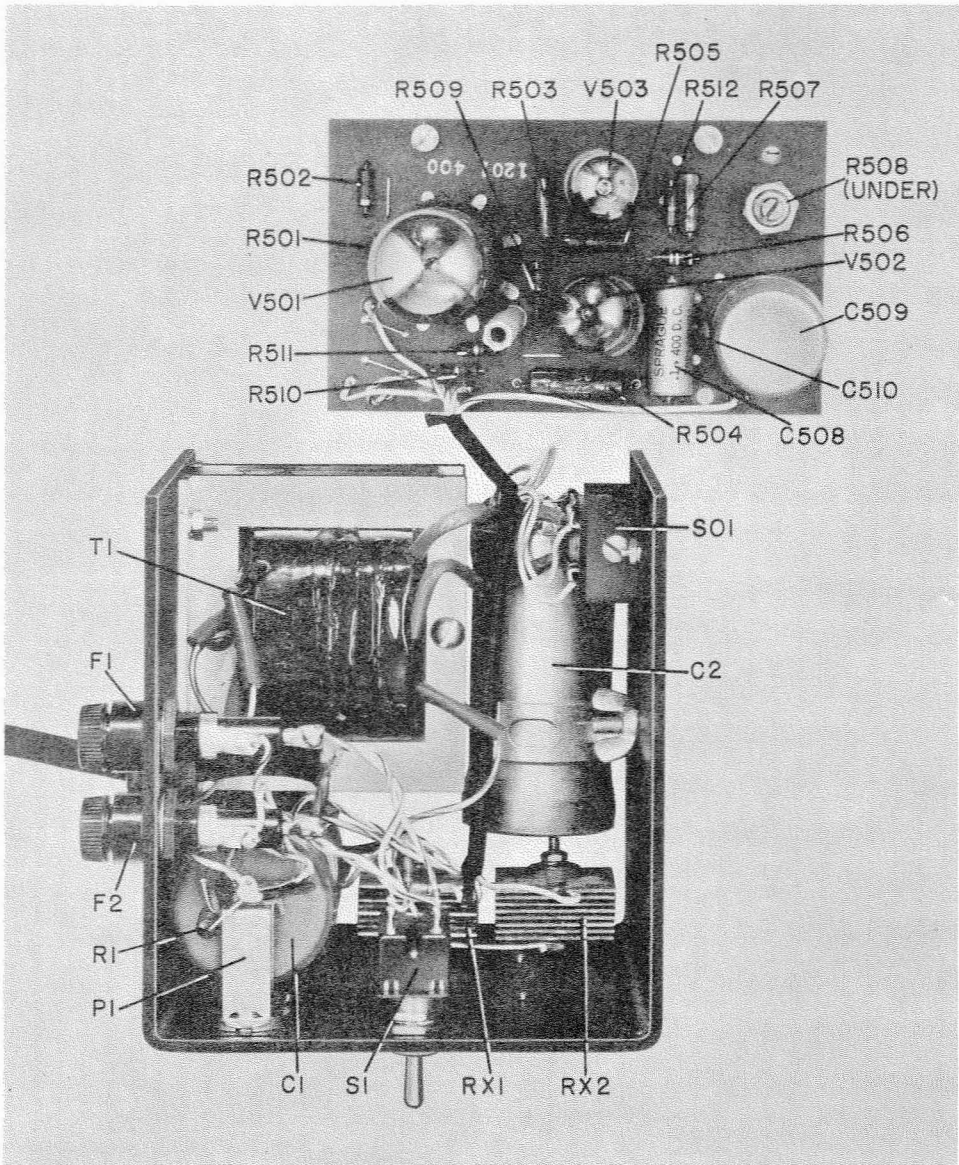

Figure 3. Interior View of Type 1201-A Unit Regulated Power Supply
4.1 OUTPUT VOLTAGE ADJUSTMENT. A single adjustment, R508 (Figure 3) is provided to set output voltage to 300 volts $\pm 1\%$. Readjustment of the potentiometer is usually unnecessary, except after replacement of V503 (Type 5651). Adjust with offset screwdriver or pliers so that an accurate voltmeter indicates 300 volts at the output terminals.